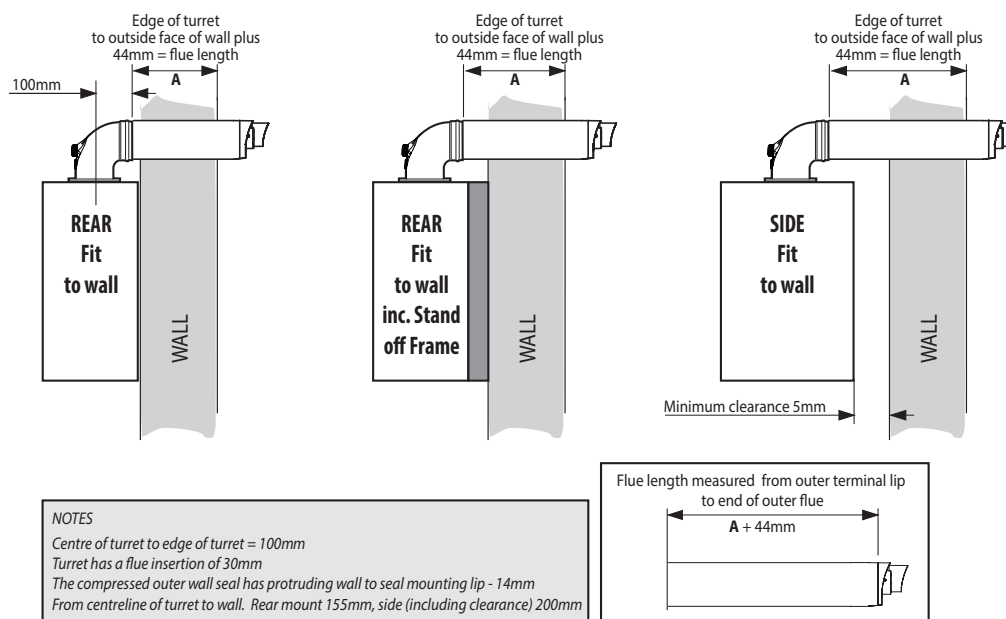

FIGURE 2
1. Measure the required cut flue length ($A+44\text{mm}$). If inside the dimensions shown in Figure 2 “1 Piece 600mm” proceed.